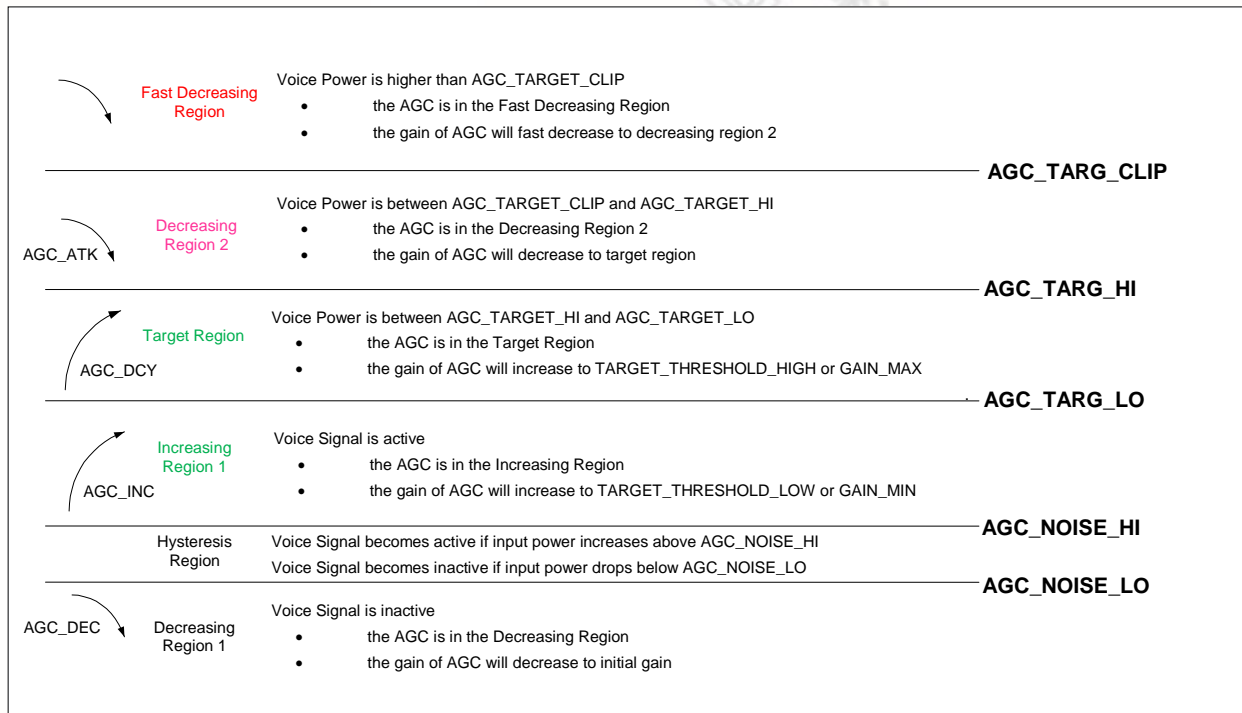

Figure 9-3 AGC Operation regions.
**GAIN\_MIN** Refer to Figure 9-3. When the peak of AGC output is smaller than AGC\_TARG\_LO and greater than AGC\_NOISE\_HI, the AGC is in Increasing Region 1. The AGC gain will increase up to GAIN\_MIN
**GAIN\_MAX** Refer to Figure 9-3. When the peak of AGC out is smaller than AGC\_TARG\_HI and greater than AGC\_TARG\_LO, the AGC is in Target Region. The AGC gain will increase up to GAIN\_MAX.